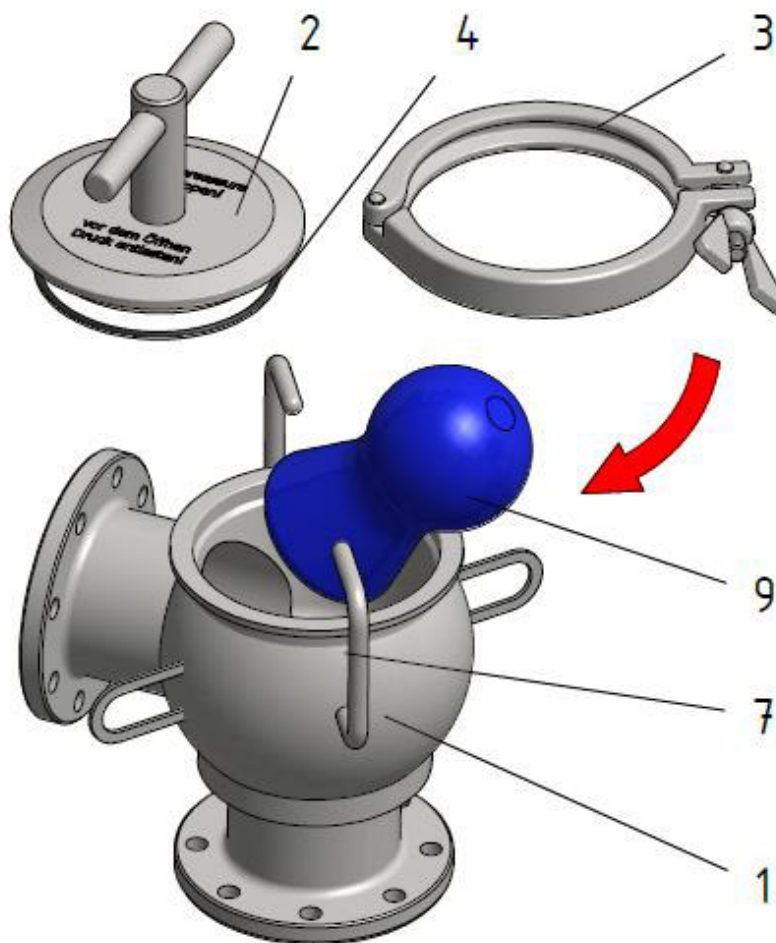

Fig 7-1.: Inserting the pig
- Release and remove the sealing clamp (Fig. 7-1, Item 3).
- Remove the cover (Fig. 7-1, Item 2) from the housing (Fig. 7-1, Item 1)
- Guide the pig (Fig. 7-1, Item 9) through the securing bracket (Fig. 7-1, Item 7) into the pipeline and up to the stop at the lower end of the housing (Fig. 7-1, Item 1)
- Clean the installation space on the housing (Fig. 7-1, Item 1) and check for any damage
- Clean and check the O-ring (Fig. 7-1, Item 4) for damage and lubricate the gasket with approved grease (Unisilikon 641, e.g. from Klüber)
- Close the housing (Fig. 7-1, Item 1) with the cover (Fig. 7-1, Item 2)
- Secure the cover (Fig. 7-1, Item 2) with the sealing clamp (Fig. 7-1, Item 3) by screwing tightly